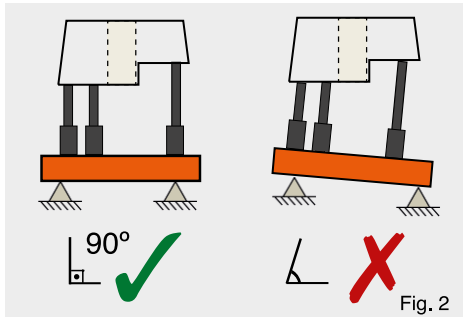

Fig. 2
- Always make sure that the plate is properly supported and stabilized on the workshop press. (Fig. 2)